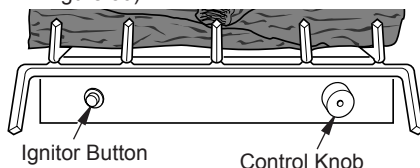

Figure 30 - Control Knob and Ignitor Button Location
4. Wait five (5) minutes to clear out any gas. Then smell for gas, including near the floor. If you smell gas, STOP! Follow B in the safety information. If you don't smell gas, go to the next step.
5. Turn control knob counterclockwise  to the PILOT position. Press in control knob for five (5) seconds (see Figure 30).